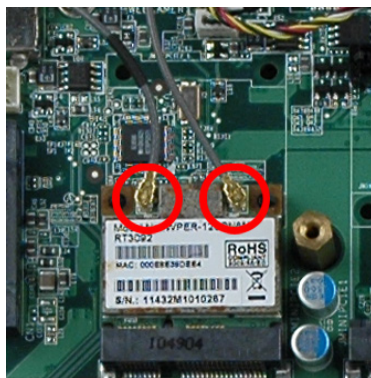

Figure 5-4: Removing the Antennas
Step 6: Disconnect the main and auxiliary antennas on the WLAN module (**Figure 5-4**).